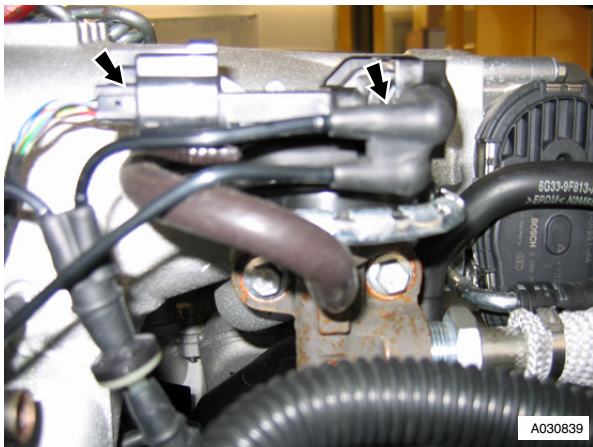

Fig. 1
2. Disconnect vacuum pipe and multiplug from EGR module (see Fig. 1).